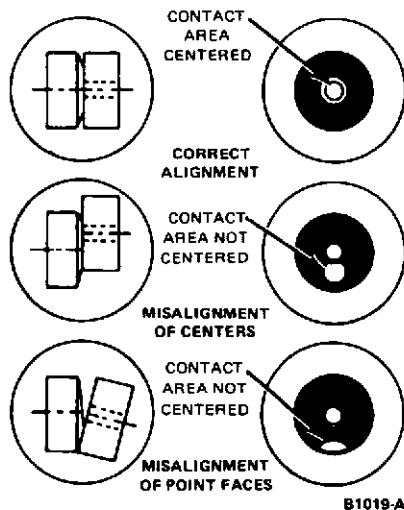

FIG. 9 Checking Breaker Point Alignment
- Turn the cam so that the breaker points are closed, then check the alignment of the points (Figure 9).